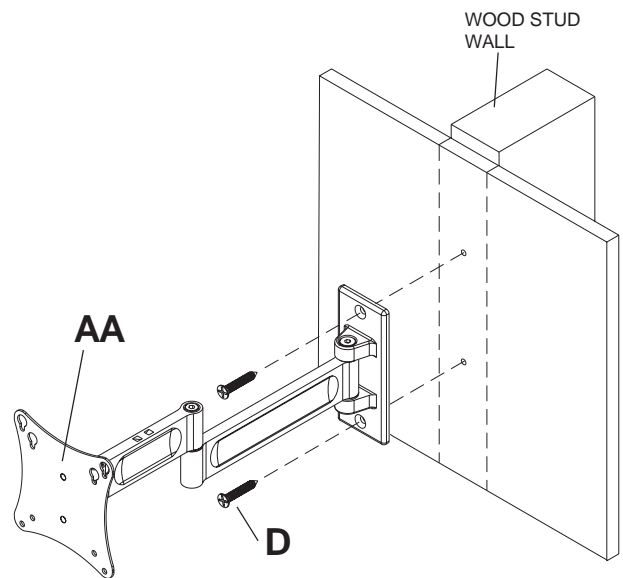

fig. 1.1
- Using a stud finder, locate and mark the edges of the wood stud used in mounting this product. Use of an edge to edge stud finder is highly recommended. Use a level to draw a vertical line down the center of the stud. Use wall plate as template to mark center of holes along the vertical line. Drill two 5/32" (4 mm) dia. holes 2.5" (65 mm) deep. Attach wall arm assembly (AA) to wall using two #14 x 2.5" flat head wood screws (D) as shown in figure 1.1.